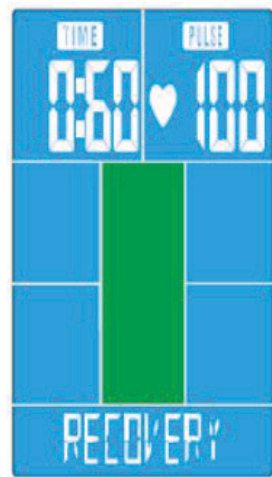

Fig. 20
*The display shows a countdown that runs from 00:60 down to 00:00 (see fig. 20).*